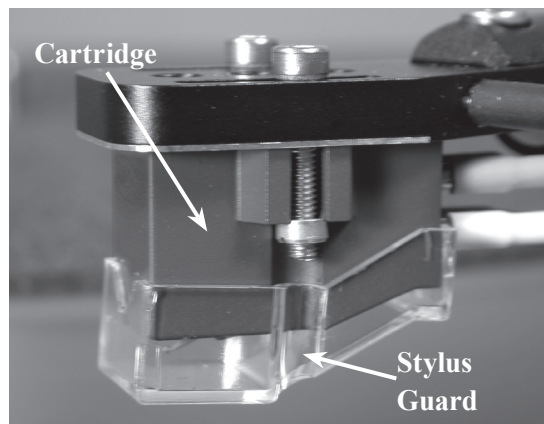

Figure 21
14. Carefully slide off the Stylus Guard from the cartridge by pulling the cover straight down. Refer to figures 21 and 22.